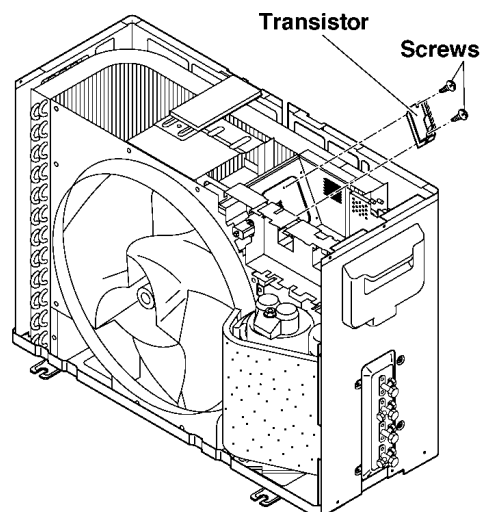

Fig. 26
7. Remove the transistor. (Two screws) (Fig.26)